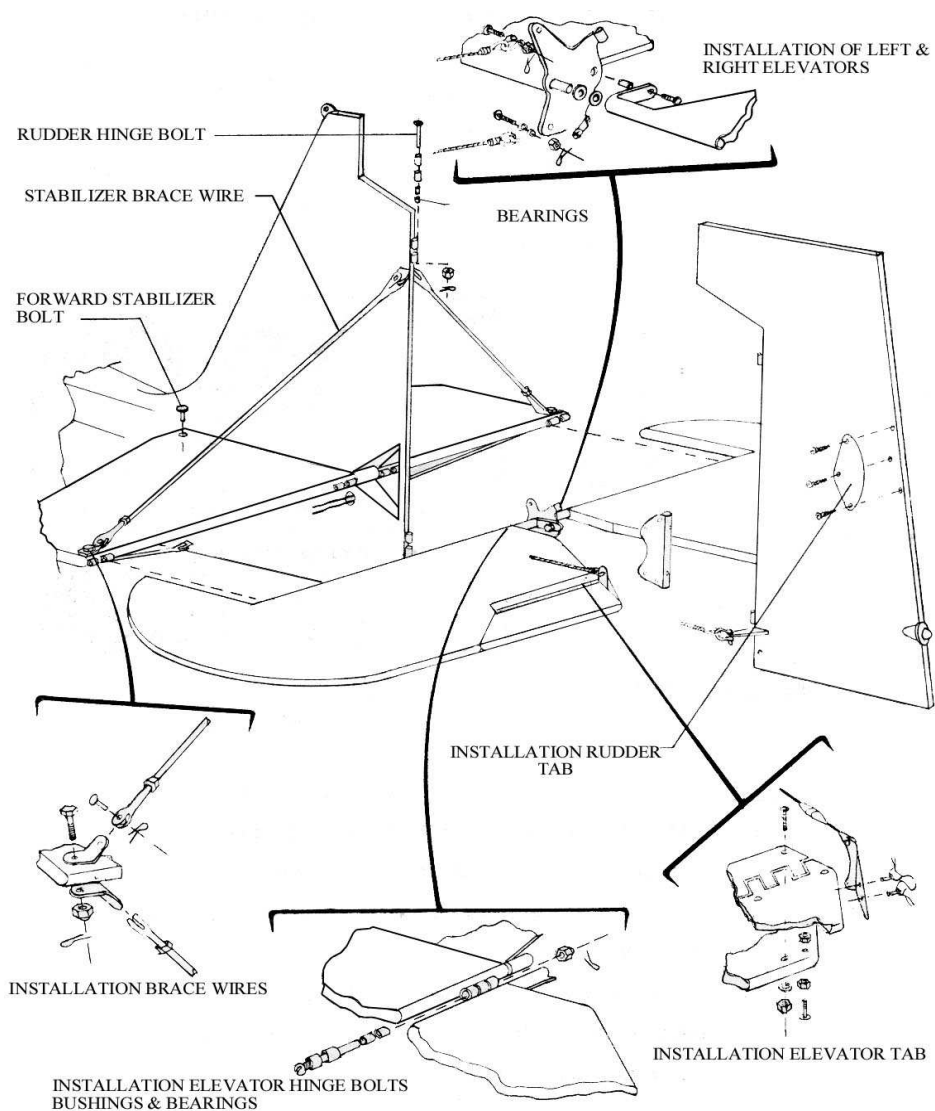

Figure 6-7, Tail Surfaces
4. Connect left elevator arm to right elevator horn using proper hardware (refer to Figure 6-7).